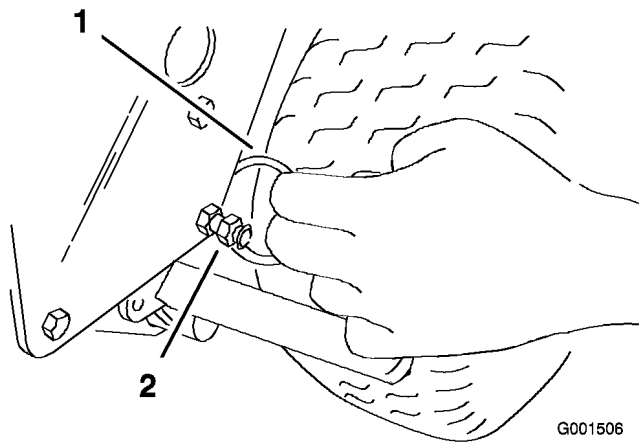

Figure 7
- Grasp split ring (Figure 7) on right side of machine, pull ring and chain straight out from side of machine and hook ring over control shield bolt.